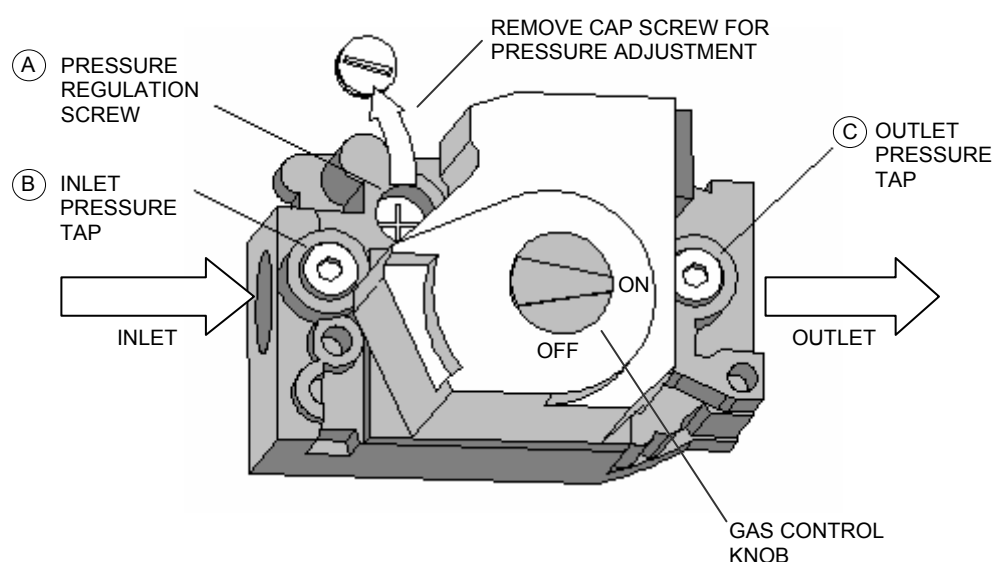

Figure 29 - Gas valve of the appliance
- Unscrew tap B (See Figure 29).
- Unscrew tap C (See Figure 29).
- Remove cap A (See Figure 29).